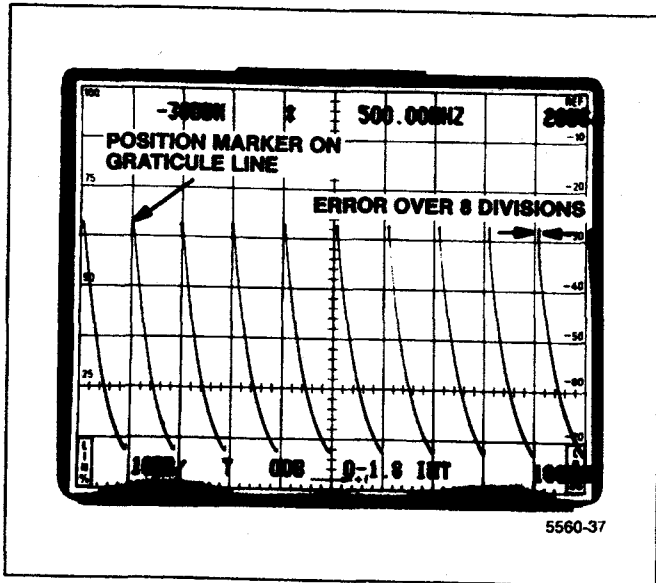

Figure 4-8. Typical display for measuring Time/Div accuracy.
- d. Use the horizontal POSITION control to align a marker on the 1st graticule line (see Figure 4-8), then check the displacement of markers from their respective positions over the center eight divisions. Marker displacement must not exceed 5% over the display.